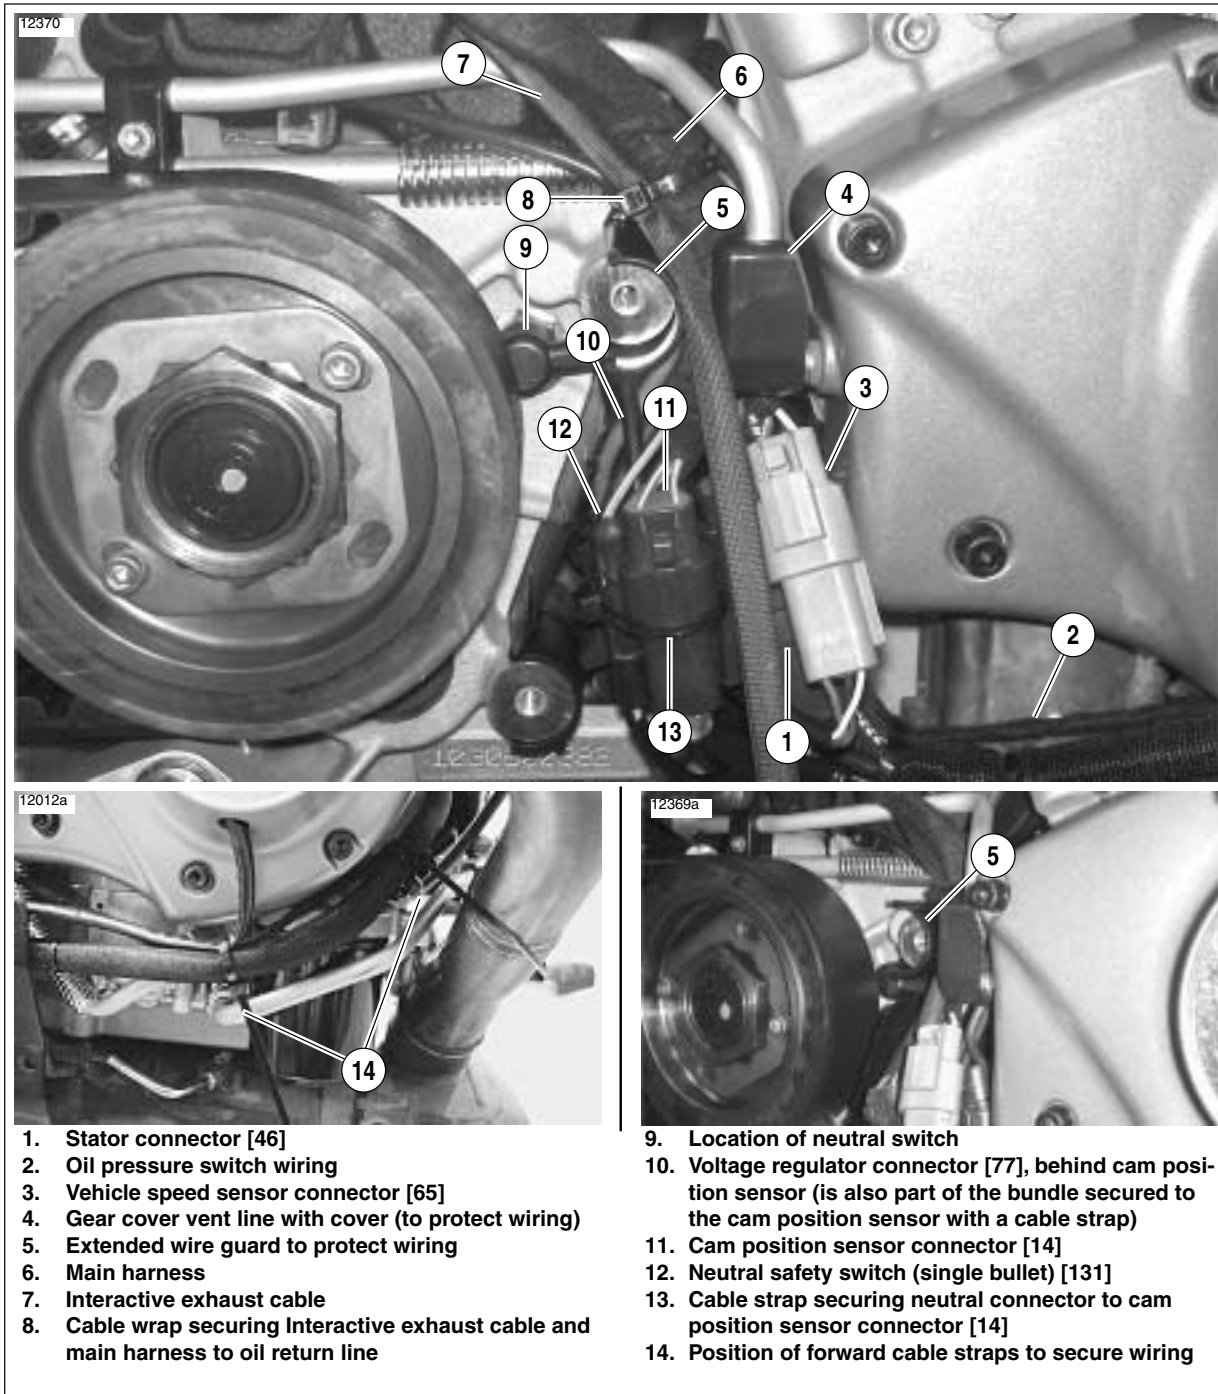

Figure 7-89. Sprocket Cover Wiring and Connections
10. See Figure 7-89. Connect the neutral safety switch (single bullet), and the cam position sensor (3-pin black).
11. Using a cable strap, secure the loop of the neutral safety wire to the cam position connector (13) under the attachment clip on the connector.